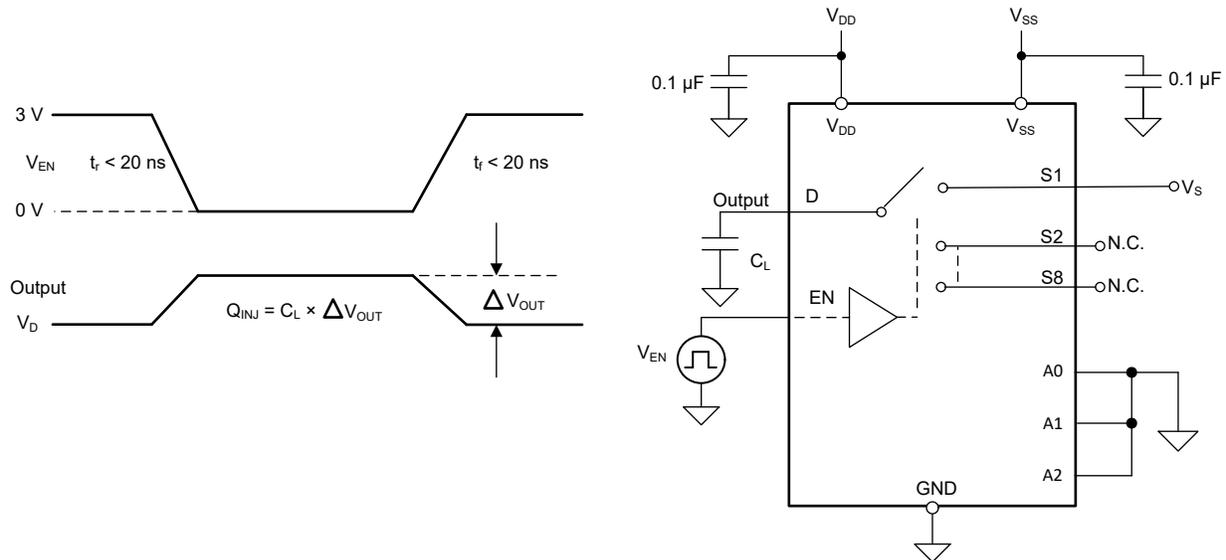

Figure 8-9. Charge-Injection Measurement Setup
The TMUX6208 and TMUX6209 have a transmission-gate topology. Any mismatch in capacitance between the NMOS and PMOS transistors results in a charge injected into the drain or source during the falling or rising edge of the gate signal. The amount of charge injected into the source or drain of the device is known as charge injection, and is denoted by the symbol  $Q_{INJ}$ . Figure 8-9 shows the setup used to measure charge injection from source (Sx) to drain (D).